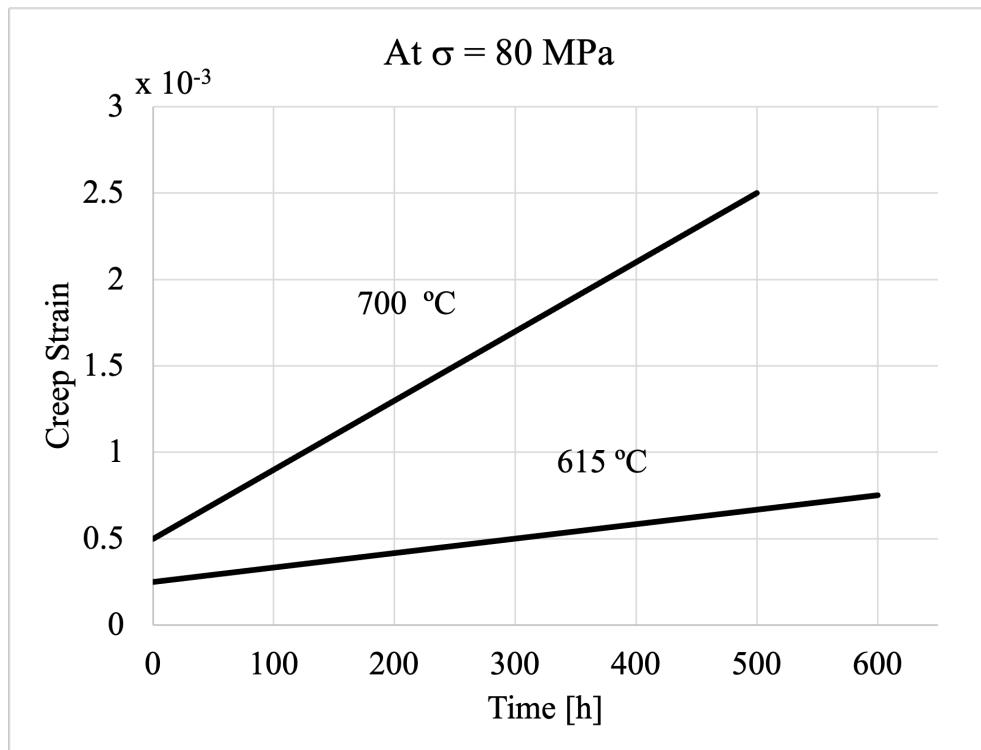
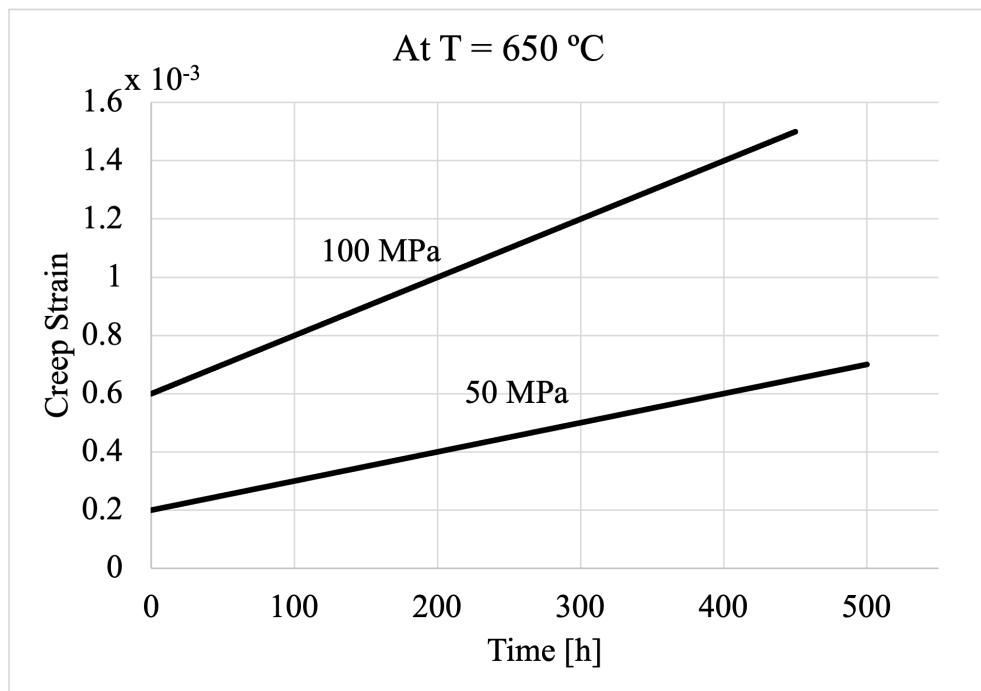

Figure 2
Figure 3
5 A high-strength steel alloy to be used in nuclear power stations was subject to four different tensile test conditions to assess its steady state creep response. Two tests were performed at a fixed applied stress of  $\sigma = 80$  MPa and temperatures of  $T = 615^\circ\text{C}$  and  $700^\circ\text{C}$ . Two tests were performed at a fixed temperature  $T = 650^\circ\text{C}$ , and applied stresses of  $\sigma = 50$  MPa and 100 MPa. In each case the creep versus time was measured *only during steady state creep*. The data is shown in Fig. 2 and Fig. 3, respectively. In order to evaluate the strain rate of this material at an arbitrary temperature,  $T$ , and stress,  $\sigma$ , the following relationship can be used:
- (a) Use the data in Fig. 2 and Fig. 3 to calculate the steady state creep strain rate subject to each of the four test conditions. Note: time zero corresponds to the start of steady state creep. [5]
- (b) Using the results from Part (a) as well as the information provided in Fig. 2 and Fig. 3, calculate the creep exponent  $n$  and the activation energy,  $Q$ . [8]